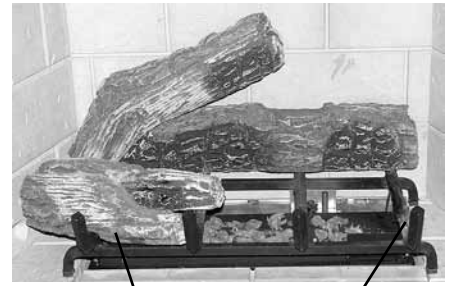

Figure 13
Step 4. Engage the bottom hole of the Front Left Log with designated pin on the grate, and align the bottom groove of the log over the far left grate bar. See **Figure 13**.